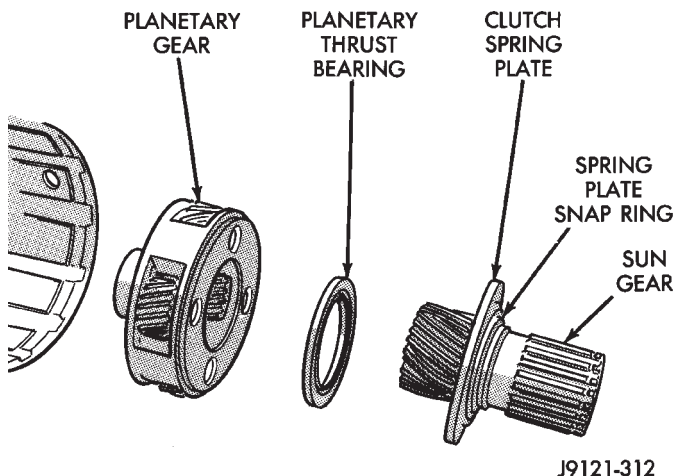

Fig. 202 Removing Sun Gear, Thrust Bearing And Planetary Gear
(2) Remove sun gear and spring plate. Then remove planetary thrust bearing and planetary gear (Fig. 202).